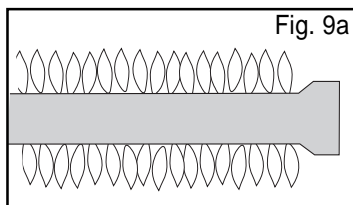

Fig. 9a
- **WARNING:** IF THE SELECTED BURNER DOES NOT LIGHT, immediately turn the burner control knob to the OFF position, to prevent gas buildup. Wait five (5) minutes for the gas to clear and then repeat the preceding starting procedure. If the burner will not light when using the Igniter, follow the match lighting instructions (see Page 8).
6. Confirm that the burner is properly lit and that the flame pattern is as desired, (see Figs. 9a, 9b & 9c, for the proper flame patterns). If the flame pattern is other than normal, consult the Troubleshooting Guide on Page 23 for corrective action.
- **WARNING:** IF THE ROTISSERIE BURNER DOES NOT LIGHT, immediately turn the burner control knob to the OFF position, to prevent gas buildup. Wait five (5) minutes for the gas to clear and then repeat the preceding starting procedure. If the burner will not light when using the Igniter, follow the match lighting instructions below.